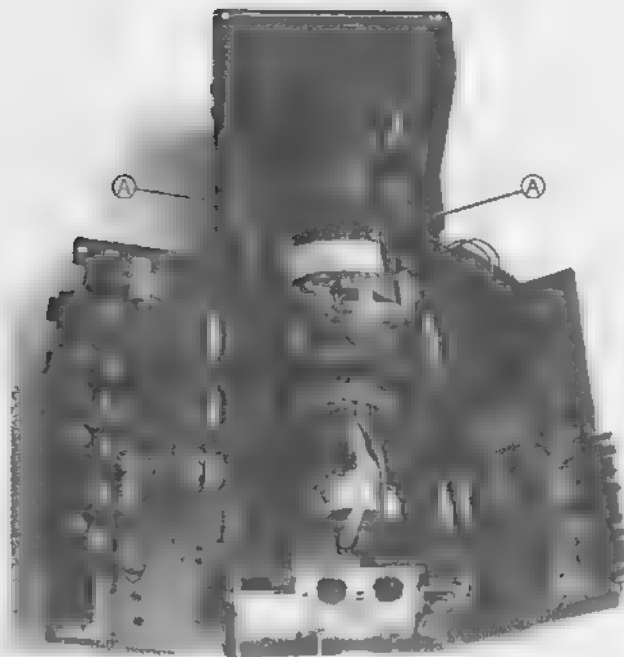

Figure 3-6. Remove screws to free CRT mount
1. Remove the two screws labelled A in Figure 3-6, and take off the plastic clamp housing